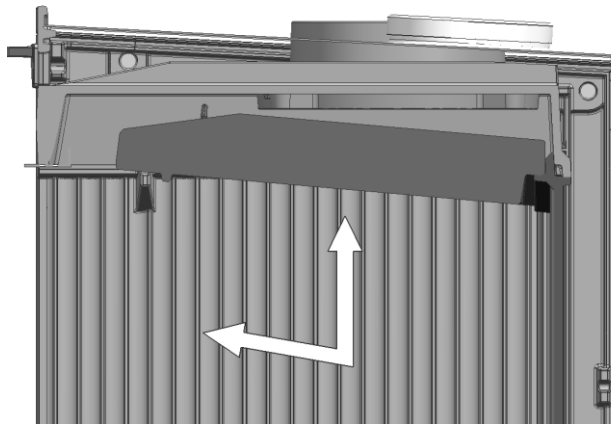
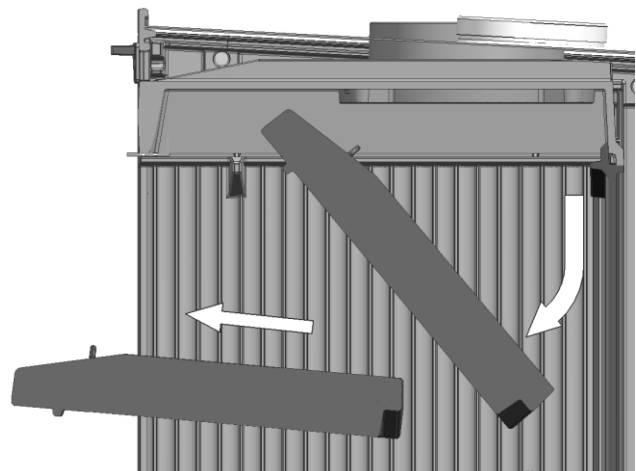

Fig. 1
Fig. 2
1. Release the front grille by loosening the two screws at the bottom (Fig.1 and Fig.2)
1 A – Slide the baffle plate forwards and upwards until the side pins of the baffle are removed (Fig.1)
B – Move the baffle downwards until it is released (Fig.2).